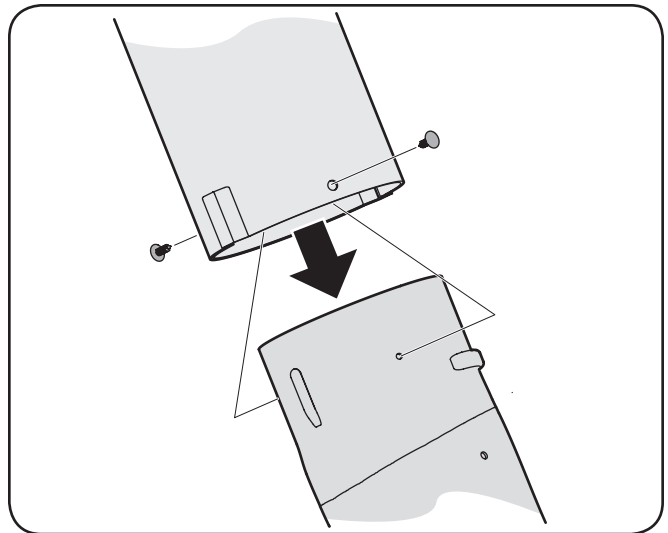

Figure 4-22
13. Install the chute adapter onto the chute elbow by lining up the tabs and sliding the adapter over the chute elbow, as in Fig. 4-22. Secure the chute adapter by installing the two 726-3046 ratchet clips, included in hardware pack 689-00091, in the holes provided.